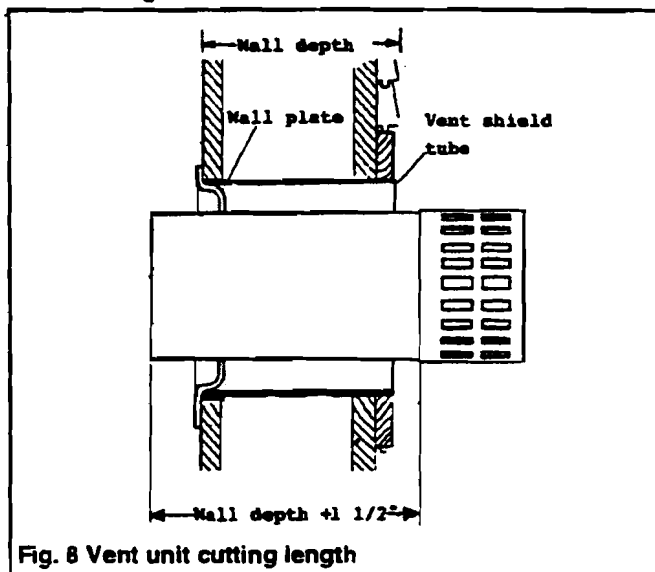

Fig. 8 Vent unit cutting length
- 6.4 Mark the vent terminal at the length of *total wall depth plus 1 1/2"* measured from the *inside edge* of the vent cap (see figure 8). Insert the Styrofoam support ring and push it as close to the marked position as possible. Cut off the vent tubes squarely at the marked position. Make sure that all Styrofoam is removed from the vent unit after cutting.